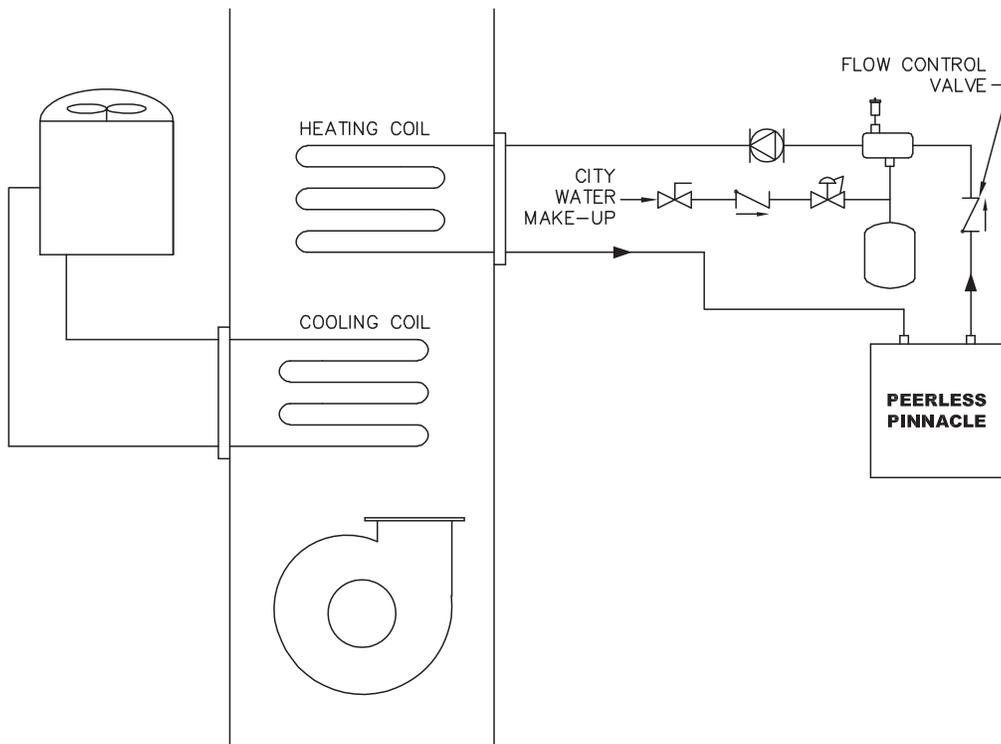

Figure 3.9: Boiler Connected to a Heating Coil in a Forced Air System
2. For boilers connected to heating coils in a forced air system where they may be exposed to chilled air circulation, install flow control valves or other automatic means to prevent gravity circulation of the boiler water during cooling cycles. See Figure 3.9 for illustration.